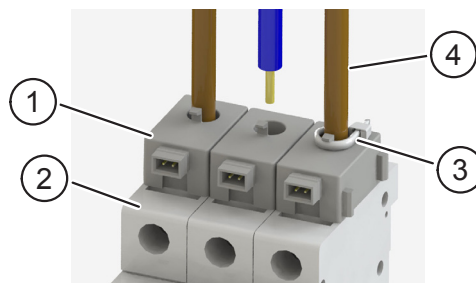

Fig. 3: Installing current sensors
- ▶ Place the linked current sensors (pos. 1 in Fig. 3) onto the top of the circuit breakers (pos. 2 in Fig 3) so that the holes in the sensors are in line with the terminals on the circuit breakers.
- ▶ Maneuver the conductors (pos. 4 in Fig. 3) through the current sensors and attach them to the terminals on the circuit breakers. The direction of energy in Fig 3 is up, that is, the breakers are connected to a bus bar (not shown) at the bottom and the wires shown go to the load.
- ▶ Fasten the conductors to the tabs on the current sensors with cable ties (pos. 3 in Fig. 3).